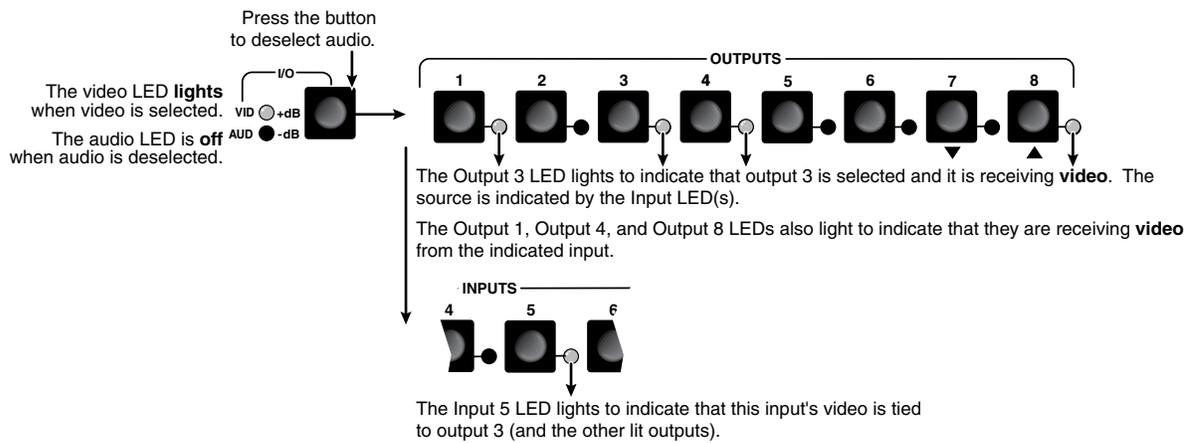

Figure 3-24 — Deselect audio to view video ties only
- Press and release the I/O button (figure 3-24).